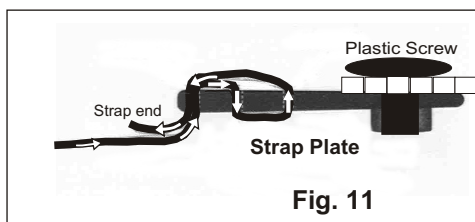

Fig. 11
C. Fig.11 - Reel Systems Placed at Pool End Only (Rectangular Pools)